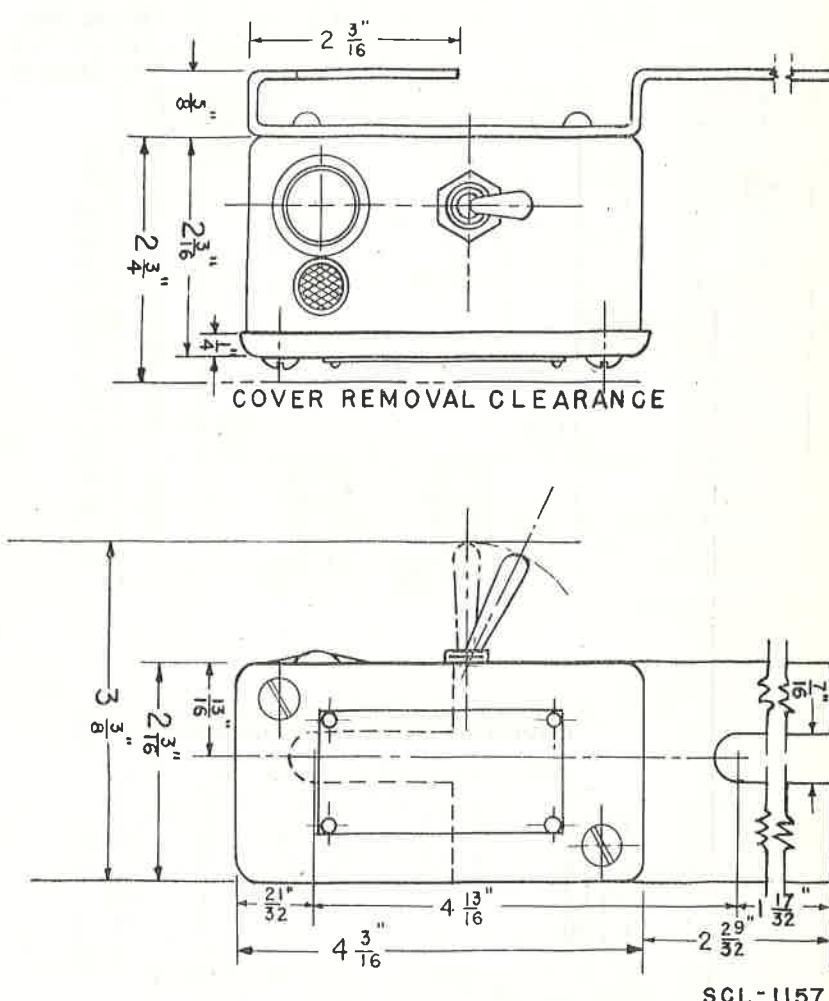

FIGURE 3.—Control box BC-369.
*c. Control box BC-369 (driver) (fig. 3).*—This control box consists of a sheet steel box approximately 4 inches long by 2 inches wide by 2 inches deep, with a cover. In it are mounted one push-button signal switch; one microphone switch consisting of one double-pole, single-throw toggle switch; one red pilot light; and one 6-point terminal block which connects the unit to the rest of the system.